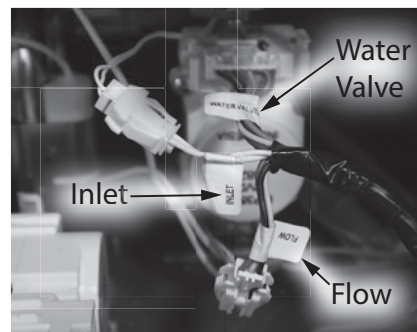

Figure 55 - Location of inlet flow module harnesses
- 21** Locate the three (3) wiring harness at the inlet flow module and disconnect them. See Figure 55.
- 25** Reconnect the end of the new main wiring harness to the three (3) wiring harnesses removed in **Step 21**. See Figure 55.